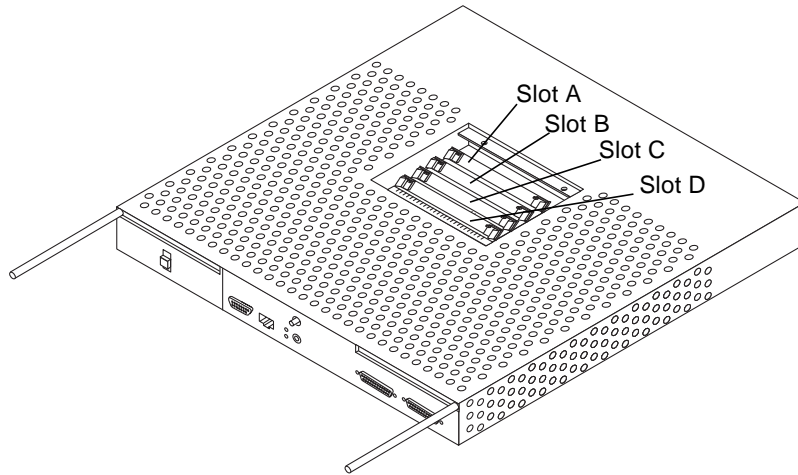

FIGURE 4-10 Netra st A1000 Controller—Empty SIMM Slots
b. Remove the SIMMs from slot B and slot A (FIGURE 4-10).
6. Replace the 8-Mbyte SIMMs into slot A and slot B (FIGURE 4-10).
7. Remove the two 32-Mbyte SIMMs from the antistatic packaging. Install them into slot C and slot D (FIGURE 4-10).